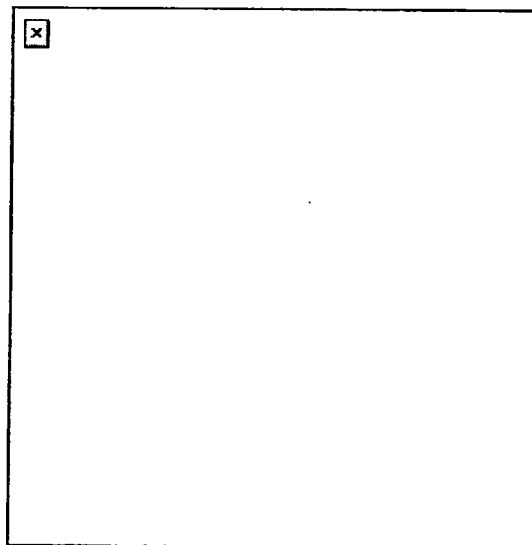

Figure 3. Prone position, bipod-supported.
2. Assume a good stable firing position (Figure 3 and Figure 4).